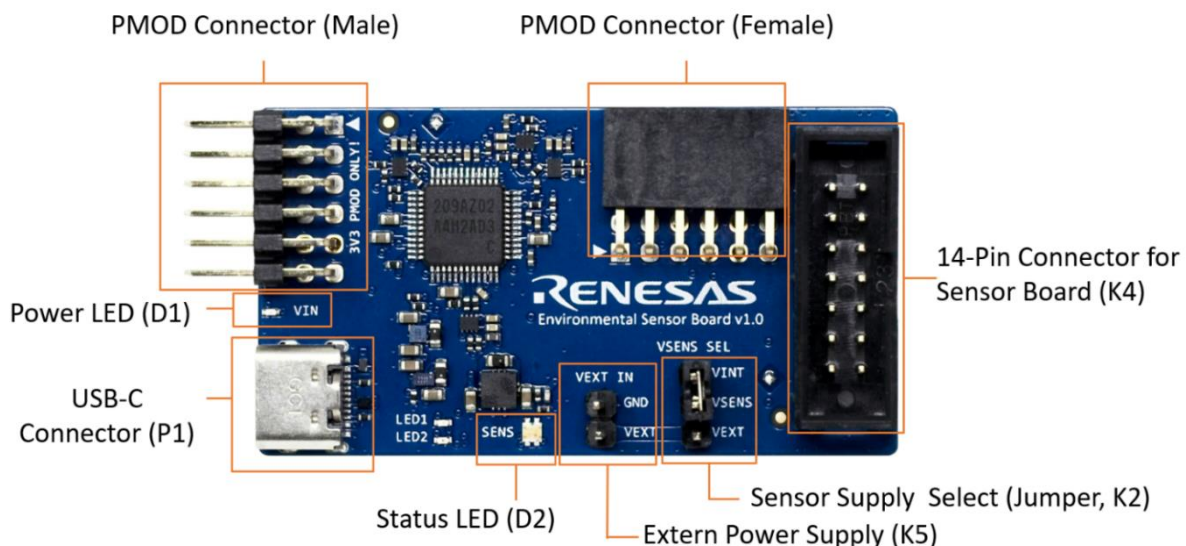

Figure 1. Jumper Settings and Connectors on the Environmental Sensor Communication Board
1. Refer to Figure 1 and Table 1 to determine the correct jumper settings for the ESCom communication board. This jumper selects either the user programmable internal supply or a user supplied voltage as supply for the connected sensors.